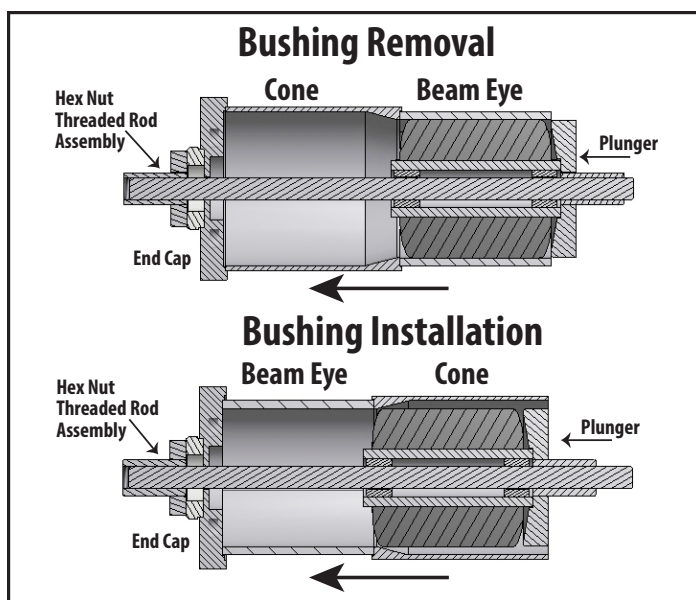

Figure 12. Bushing Replacement Tool 6100051
- Assemble the bushing replacement tool and place on the eye of the beam (Figure 12). NOTE: Cone is tapered inside to a smaller opening on one end.
- Assemble the bushing replacement tool and place on the eye of the beam (Figure 12).